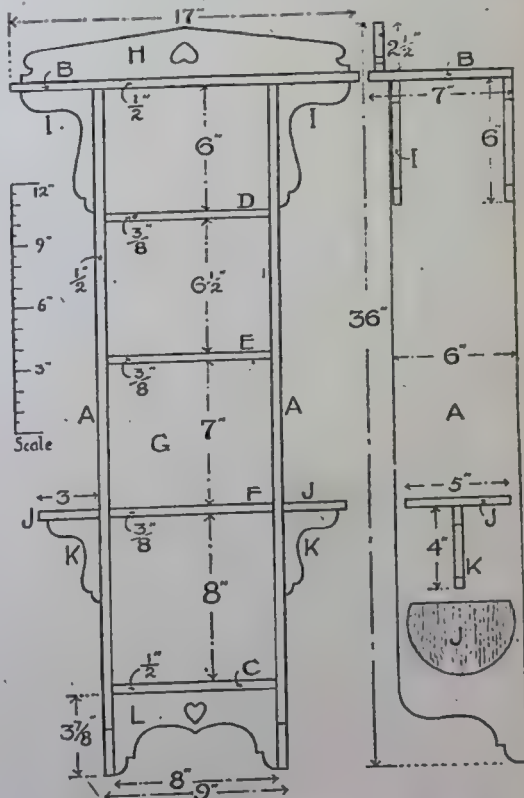
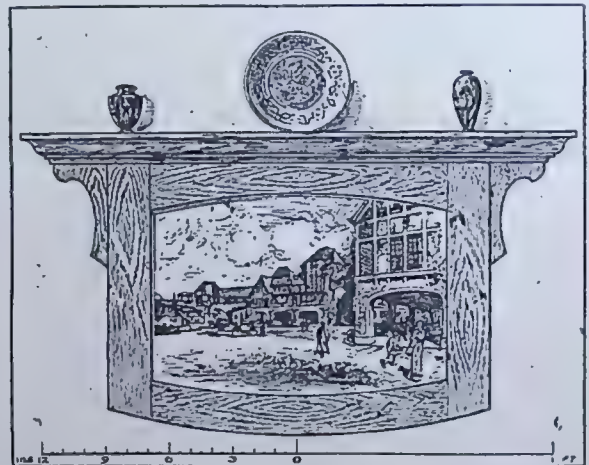
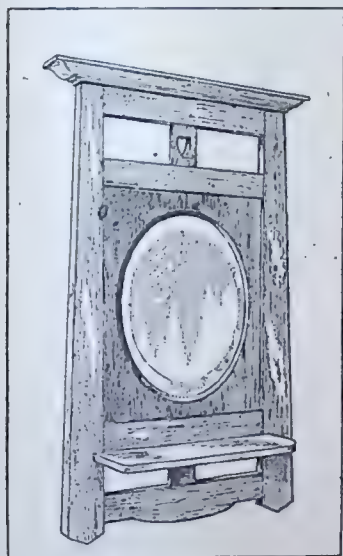

FIG. 11.—PANEL BOOKSHELVES.
FIG. 13.—PICTURE FRAME, 26 INS. BY 15 INS.
FIG. 14.—ARTISTIC MIRROR FRAME, 22 INS. BY 17 INS.
OF bookshelves there is an endless variety but for filling an odd corner of some parlour or bedroom wall nothing is more pleasing than a set of shelves of the neat "panel" type. The case width of the shelves shown in Fig. 11 is 9 ins., the four spaces being arranged to suit books from crown 8vo. to the neat pocket edition size. The top shelf has a width of 17 ins., and the total height over pediment is 36 ins. The shaped ends, the side shelves and the
THE APRON PIECE (L), shaped as shown in Fig. 11, is rebated to the ends.
THE picture frame shown here (Fig. 13), carried out in oak or dark walnut, will make a most acceptable gift, especially if fitted with an appropriate autotype, photograph, etching, photograph or coloured print. It presents no difficulty, and if the worker is unable to run his own moulding he will easily be able to procure a suitable length from the local cabinet maker. The material required is as follows, the sizes being net finished:—
IN designing this wall mirror (Fig. 14) several purposes have been kept in view. In the bedroom or bathroom a shaving glass is always useful. In the hall a small mirror, near the door in a good light, is a welcome addition, especially when the hall stand is placed (as it often is) in a dark corner. Then, in the sitting room or drawing room an attractive mirror,
Faulty felloes may be found not adjoining each other, as in Fig. 12. If so it is best to remove the wedges in the end of the spokes, so that the intermediate felloe can be drawn off at a certain distance, as in Fig. 11. This will enable us to utilise the dowels, which otherwise would be impossible. In such a case as this the length of the felloes is obtained by laying them on the old ones, as in Fig. 14 (where E E are the new felloes), and squaring them up on the inside and outside, thus getting length and bevel at the same time.
Fig. 13 shows the felloes laid on for marking in, where three new ones are wanted, all separated by the old one—a somewhat rare occurrence, but one which may occasionally crop up. Should more than three new felloes be wanted it is usually advisable to "new ring" the wheel.
On referring to Fig. 11, it will be noticed that the dowels in the old felloes are bevelled off from one side; this is done to facilitate the putting together, the sloping off as shown making it much easier to get them to enter the holes in the new felloes.
Fig. 1.—Wheel with two broken Felloes. Fig. 2.—Wheel with four broken Spokes. Fig. 3.—Two new Spokes inserted. Fig. 4.—Two Spokes drawn out. Fig. 5.—Two ways to draw out Spokes. Fig. 6.—Side elevation of Fig. 14. Fig. 7.—Marking position of Mortises. Fig. 8.—Sectional detail of Figs. 9 and 10. Fig. 9.—New Felloe fixed with Nails. Fig. 10.—New Felloe fixed with Screws. Fig. 11.—New Felloe partly drawn off to facilitate entrance of Dowels. Fig. 12.—Wheel with two broken Felloes removed. Fig. 13.—Marking lengths of Felloes when three alternate new ones are required. Fig. 14.—Marking new Felloes to length.